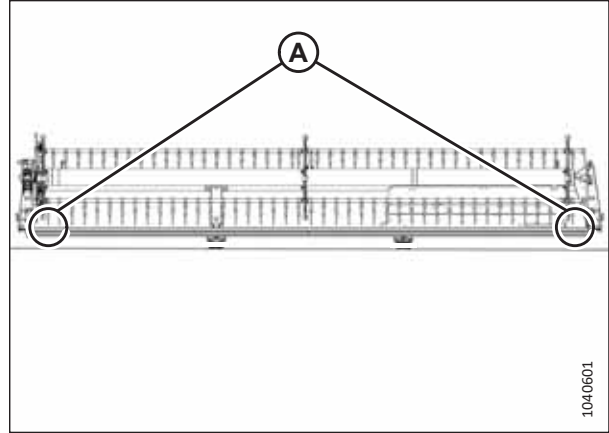

Figure 4.275: Single-Reel Header Measurement Locations
- Figure 4.275, page 406 – single-reel headers